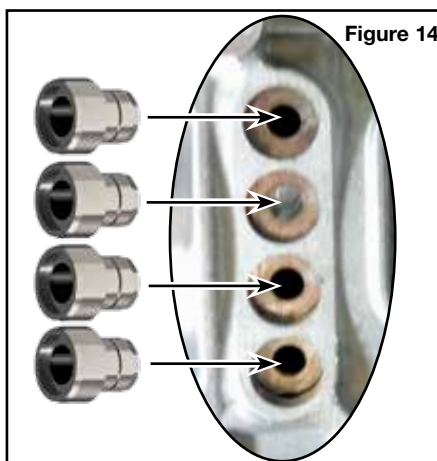

Figure 14
- Install four Sonnax case seal inserts (grooved and threaded) into the case at the center support location (Figure 14). Use appropriately sized flat punch to lightly tap inserts into place. Shoulder on insert will seat flush.